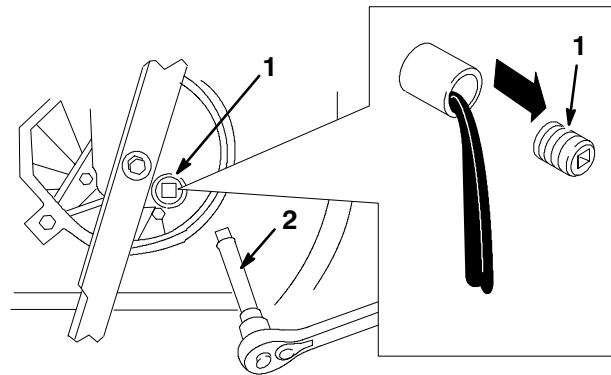

Figure 20
5. Remove the oil drain plug, return the lawn mower to its operating position, and allow the oil to drain into the drain pan (Fig. 20).